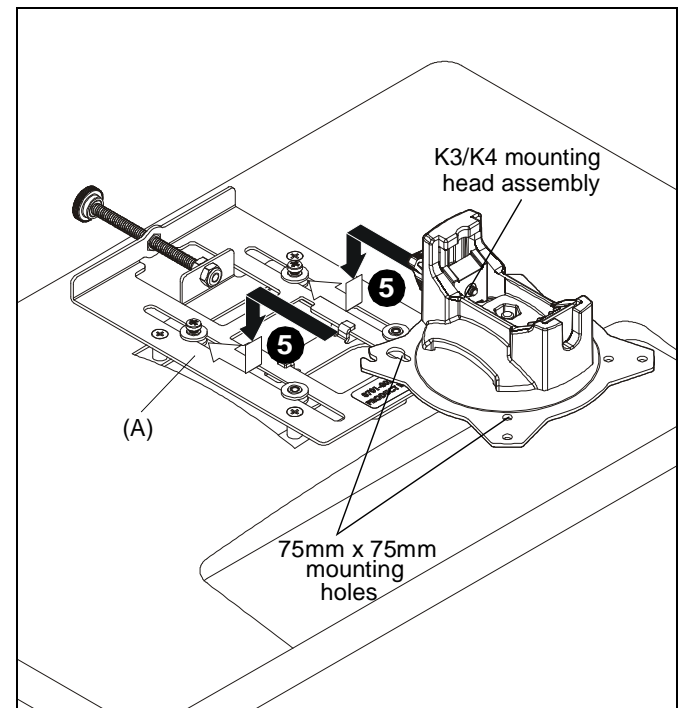

Figure 3
5. Place K3 or K4 head assembly on back of KRA235 mount and slide until the two upper screws are positioned in the upper 75mm x 75mm mounting holes of the K3/K4 head assembly. (See Figure 3)